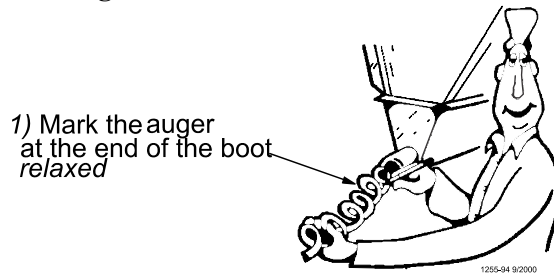

Figure 41. Measure the Auger from relaxed
10. Pull the auger at the boot end until it begins stretching. Then let it relax. In the *relaxed* position, mark the auger at the end of the boot. See **Figure 41**.